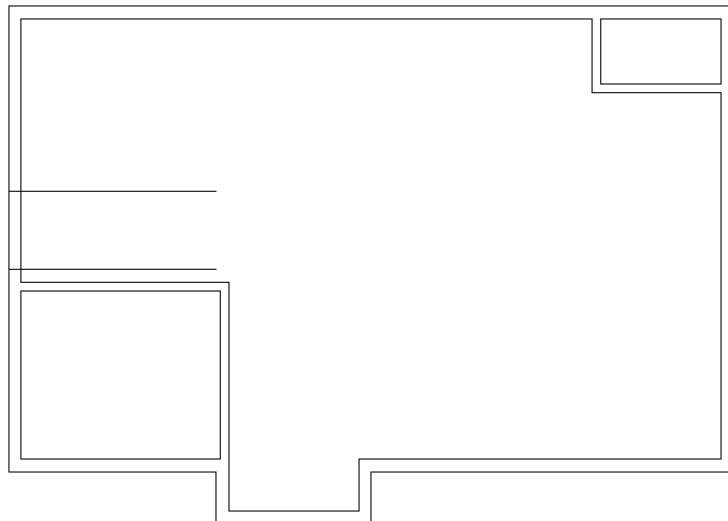

FIGURE 4.30: The offset line for the 3'-0" (915 mm) opening
4. End and restart the **OFFSET** command by pressing the spacebar or \downarrow twice; then type **3'** \downarrow (**915** \downarrow) to set a new offset distance, and offset the new line upward (see Figure 4.30).